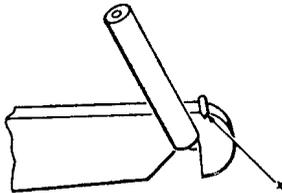

FIGURE 14. Termination of Wire on Terminal of Type 65 (or Similar) Terminal Strip
- 6.08 To terminate a wire on a terminal of a type 65 (or similar) terminal strip, bring the wire along the left side of the terminal, through the notch, back along the right side of the terminal, and across the top (as shown in Figure 14). Cut or break the excess wire at point X.